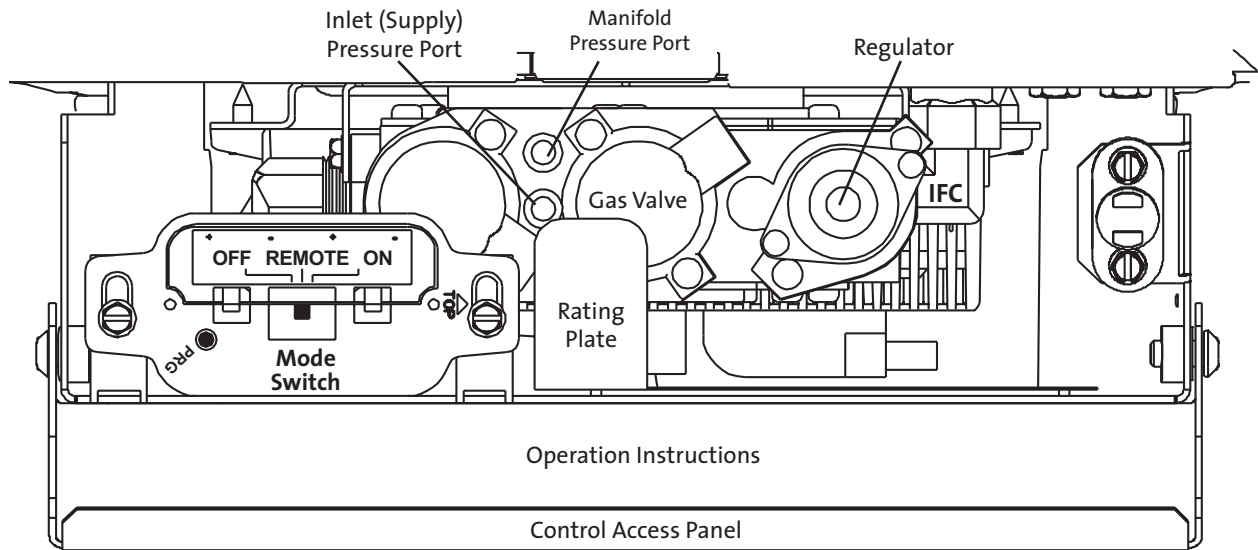

Figure 15.1. GF 160 DV IPI Controls Compartment.
1. Set the Mode Switch to **OFF**. See fig. 15.1.
1. Press the Controls Access Door to release its magnetic catch and swing the panel down. Switch the Mode to **REMOTE**. See fig. 15.1.